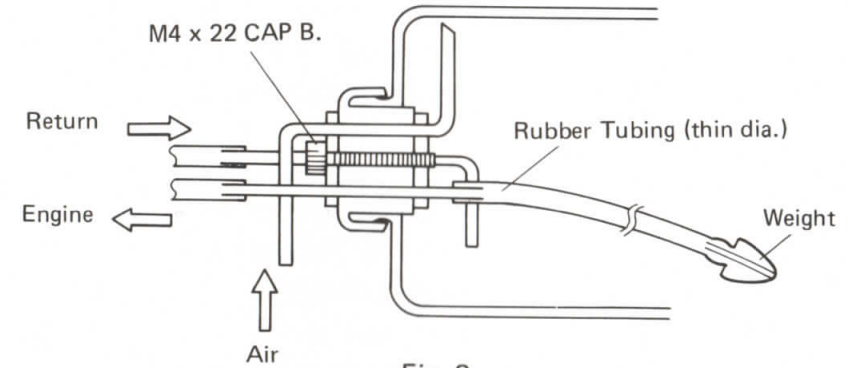

Fig. 8
- 45** Assemble the fuel tank cap as show in Fig. 8, then insert it into the tank. Bolt securely after folding back.